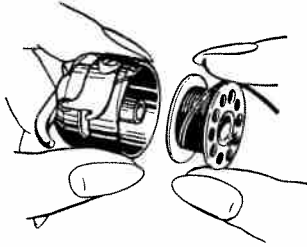
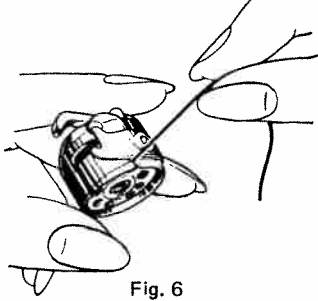
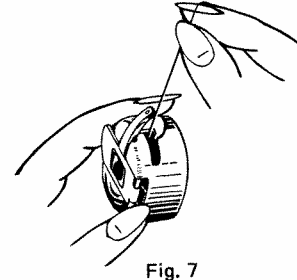

Fig. 5
Fig. 6
Fig. 7
Step 1 (illustrated in Fig. 5) Hold bobbin case between thumb and forefinger of left hand, so that the slot in the edge of the bobbin case is on top. Take the bobbin between thumb and forefinger of right hand so that the thread on top leads from left to right. Step 2. Insert bobbin into bobbin case, pull the thread into the slot of the bobbin case as shown in Fig. 6, and draw it under the Tension spring and into the fork-shaped opening of the spring as shown in Fig. 7.